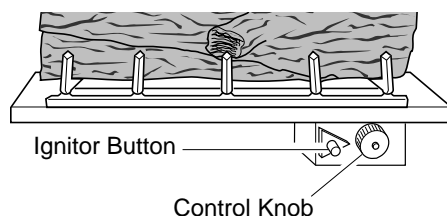

Figure 40 - Control Knob and Ignitor Button Location
4. Wait five (5) minutes to clear out any gas. Then smell for gas, including near the floor. If you smell gas, **STOP!** Follow "B" in the safety information above. If you don't smell gas, go to the next step.
5. Turn control knob counterclockwise to the PILOT position. Press in control knob for five (5) seconds (see Figure 40).